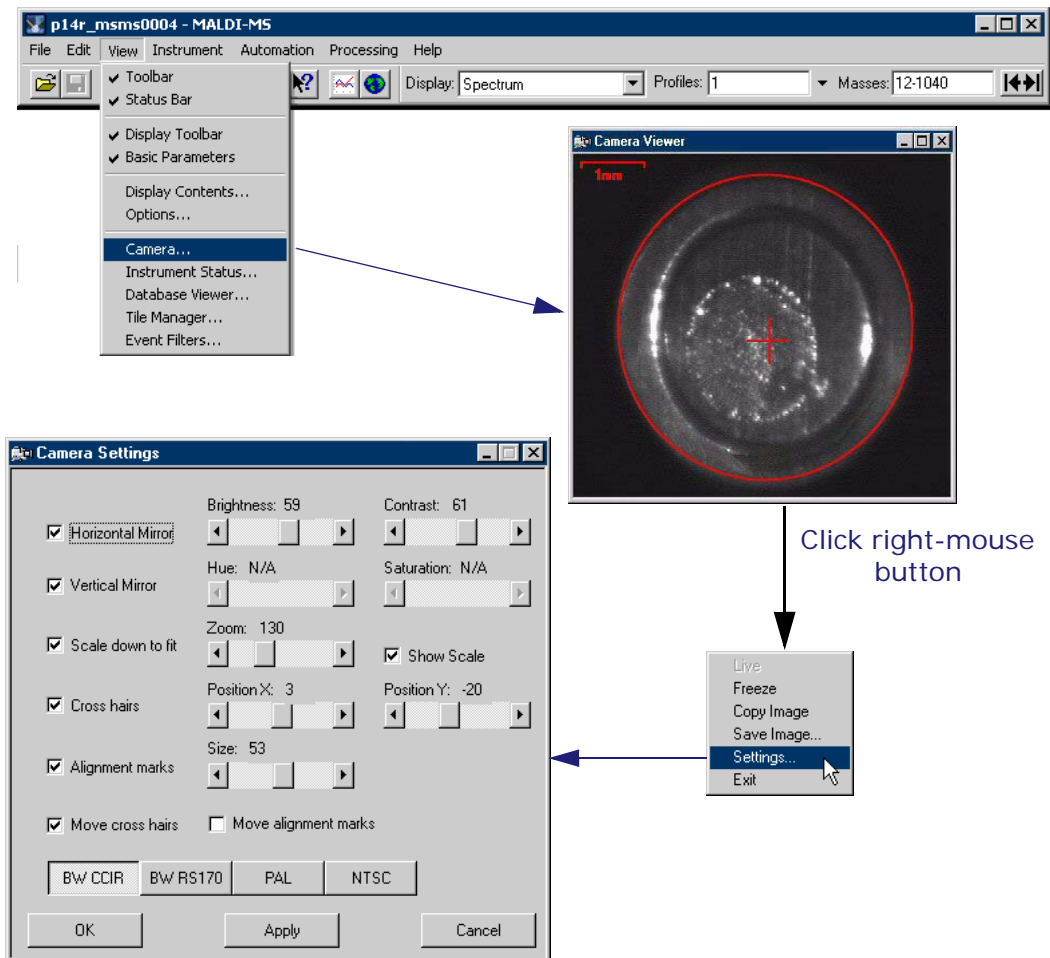

Figure 14.13 Using the Axima camera to inspect a sample well
To turn on the camera display select **Camera** from the "View" menu options, see Figure 14.13 below.
The camera is normally set so that the cross hairs are at the centre of the image and at the position at which the laser will fire. As indicated in Figure 14.13, holding the right mouse button down over the camera image produces a menu with six options, these are as follows:
- **Settings...** invokes the popup menu shown in Figure 14.13 which controls the camera image. The usual image controls are available for example slider bars are used to control **brightness, contrast, hue** and **saturation**. The image can be digitally zoomed (automatically fitting the image frame) by use of the zoom slider bar. Check boxes (**Horizontal** and **Vertical Mirror**) may be used to cause the image to be reflected in the respective mirror planes. The **Cross hairs** and 1mm **Scale** (both shown on the image in Figure 14.13) can be toggled on or off using the check boxes. **Alignment marks** can be enabled causing an oval image of the aperture to be shown which is used to align the image so that the cross hairs are centred at the laser focus. The set of four radio buttons (BW CCIR, BW RS170, PAL, and NTSC) is used to identify the type of camera fitted. By default this will be BW CCIR which is the type for the black and white camera normally shipped with the Axima.